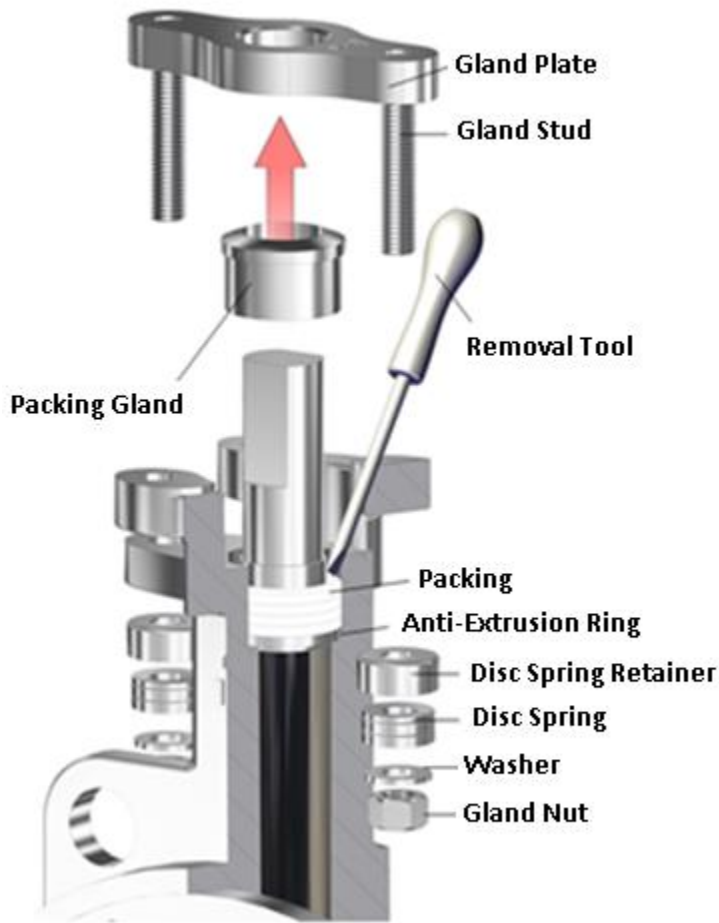

FIGURE 8. UPPER STEM PACKING REPLACEMENT
1. Refer to Figure 8 for upper stem packing replacement.